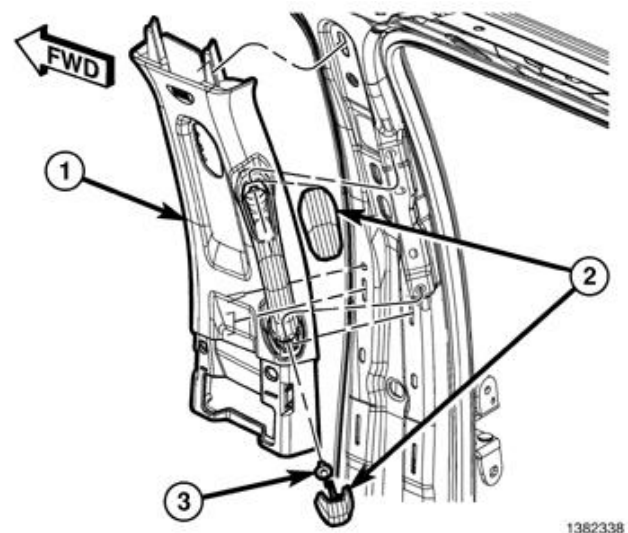

Figure 27 – B-Pillar Upper Trim Panel
12. On the B-pillar, use a small flat-bladed tool to carefully open the two fastener covers (2) located on the grab handle (Figure 27).
13. Remove the two bolts (3) that secure the grab handle to the B pillar (Figure 27).
14. Using a trim stick C-4755 or equivalent, release the retaining clips that secure the B pillar upper trim panel (1) then position the trim panel out of the way. It is not necessary to remove the seat belt from the trim panel (Figure 27).
- 60. Install the B-pillar upper trim panel (1) and engage the retaining clips fully (Figure 27).
- 61. Install the grab handle bolts and tighten to 5 N·m (44 in. lbs.). Close the fastener covers (2) (Figure 27).